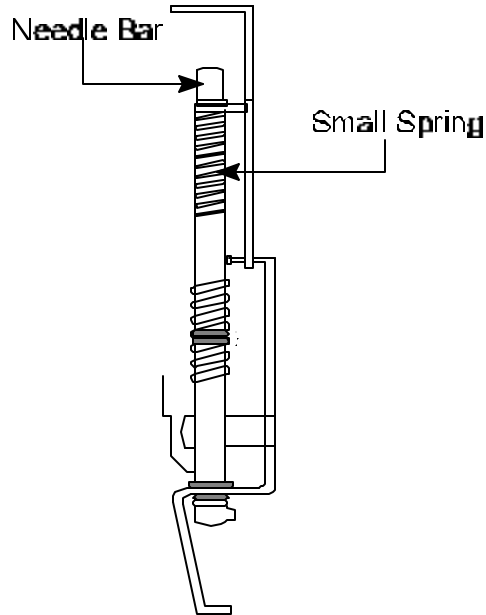

Figure 7
13. **Discard** old Needle Bar and small spring. See Figure 7.